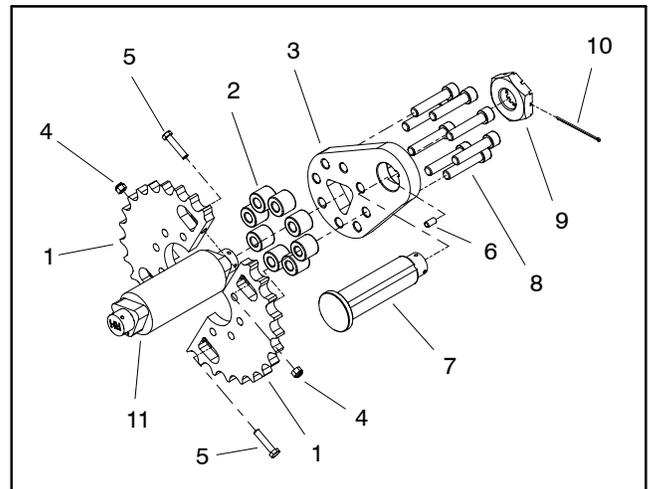
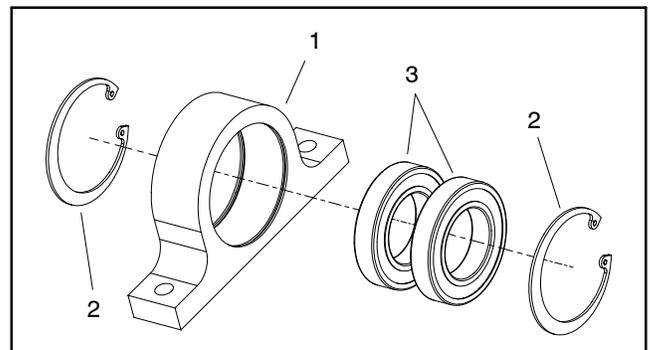

Figure 12
Figure 13
- C. Remove cotter pin (item 3) and crank nut (item 9) that secure one of the crank arms to crank shaft.
E. If sprocket is attached to removed crank arm, remove sprocket if necessary (Fig. 12).
G. If necessary, remove retaining rings and bearings from bearing housing (Fig. 13). Discard removed bearings.
7. If necessary, remove and discard spring pins (item 10).
1. If bearings were removed from bearing housing, install new bearings into housing (Fig. 13):
A. Install one (1) retaining ring into groove in bore of housing. Make sure that retaining ring is properly seated in groove.
A. If either of the removed crank arms included a drive sprocket, install sprocket if it was removed (Fig. 12). Make sure that crank pin is installed into crank arm before sprocket is installed.
C. Apply antiseize lubricant liberally to crank shaft (item 12). Slide crank shaft into bearing housing assembly.
4. Position bearing housing assembly to aerator frame. Install and tighten two (2) cap screws and lock nuts to secure bearing housing assembly to coring head frame.
6. Rotate coring crankshaft to allow access to crank nuts (item 9) that secure crank arms and connecting rods on both sides of crankshaft bearing housing.